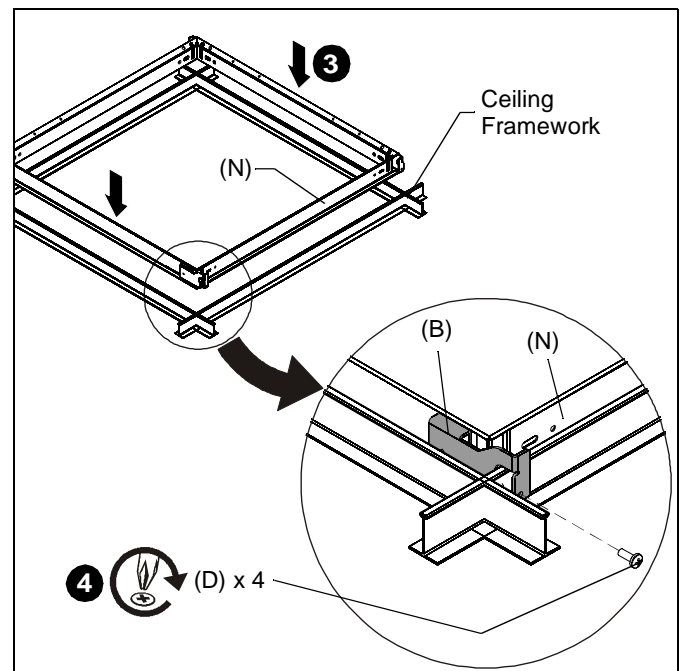

Figure 3
3. Set CMS490 frame (N) over top of ceiling framework, hooking each track clip (A and B) onto the ceiling framework. (See Figure 3)
4. Secure CMS490 frame (N) to ceiling framework using one 10-24 x 1/2" Phillips head screw (D) through each track clip (D) at each corner. (See Figure 3)